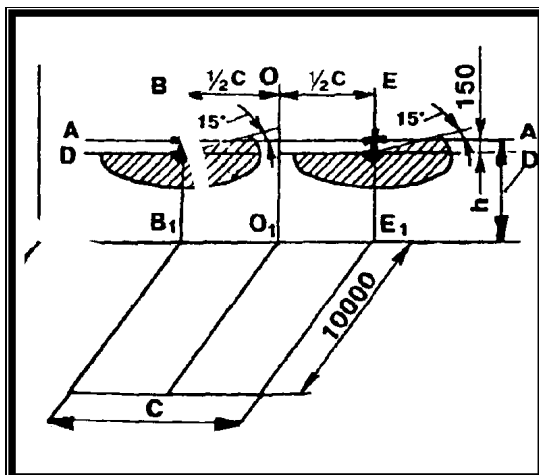

Fig. F-88. Lights adjustment scheme
- draw crosses on the screen; their centres should be distanced by the dimension C and placed in the height D (values of C and D should be measured on the tractor) (Fig.F-88)